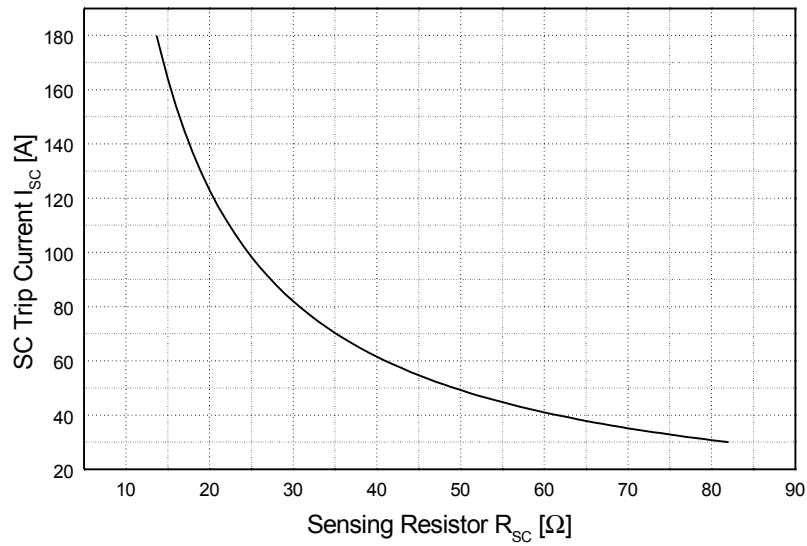

Fig. 8. Relationship between Sensing Resistor and SC Trip Current for Short-Circuit Protection
- Short-circuit current protection is functioning only at the low-sides. It would be recommended that the value of the external sensing resistor (R_{SC}) should be selected around 56 Ω in order to make the SC trip-level of about 45A. Please refer to Fig. 8 which shows the current sensing characteristics according to sensing resistor R_{SC} .